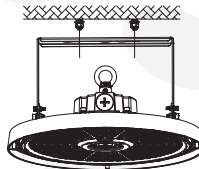
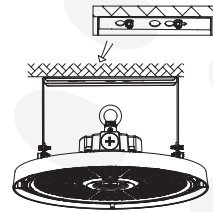

Figure 5
Figure 6
Step 3. Align the bracket hole with screw hole (Figure 5), and push the fixture to one side (Figure 6) and fix it.